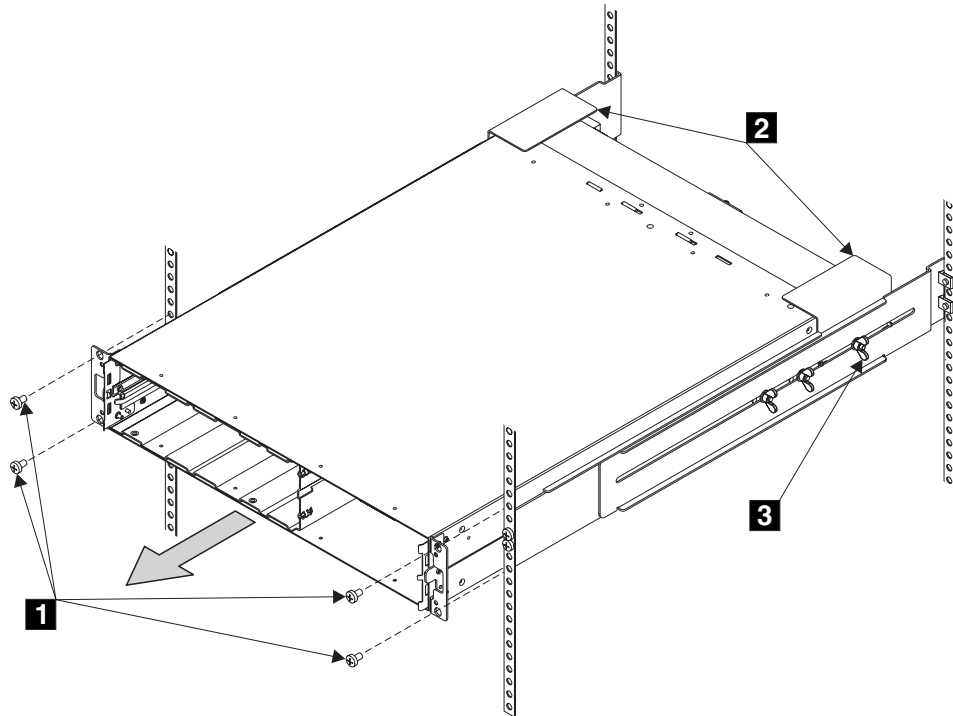

Figure 110. Removing the uninterruptible power supply
**The uninterruptible power supply battery unit weighs 21 kg (45 lb). Do not attempt to lift the uninterruptible power supply battery unit by yourself. Ask another service representative for aid. (18)**
7. At the front of the uninterruptible power supply, unscrew the mounting screws, **1** in Figure 110 on page 197.